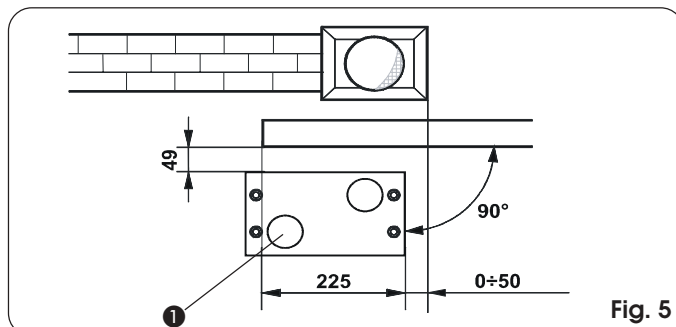
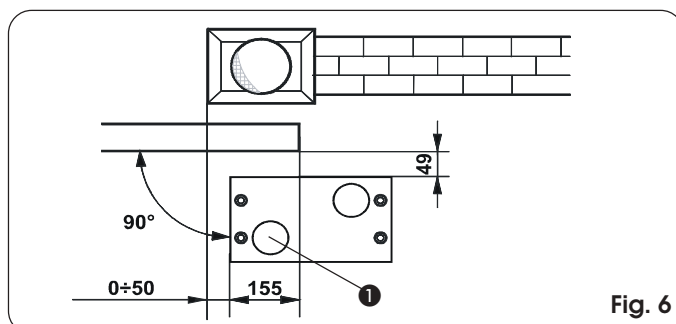

Fig. 5
Fig. 6
- 2) The foundation plate must be located as shown in figure 5 (right closing) or figure 6 (left closing) to ensure the rack and pinion mesh correctly.